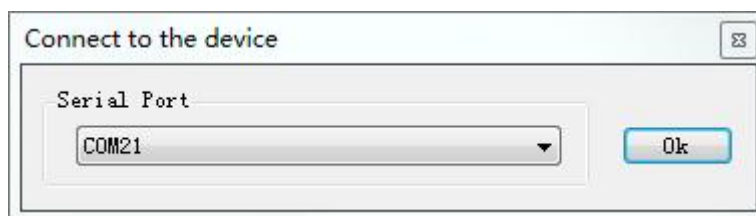

Fig.3.1.12 Serial port selection
(1) The default mode of configuration interface is serial communication. You can directly click the establish connection button , and the window as shown in Fig.3.1.12 will pop up. Click the drop-down menu to select the corresponding serial port.